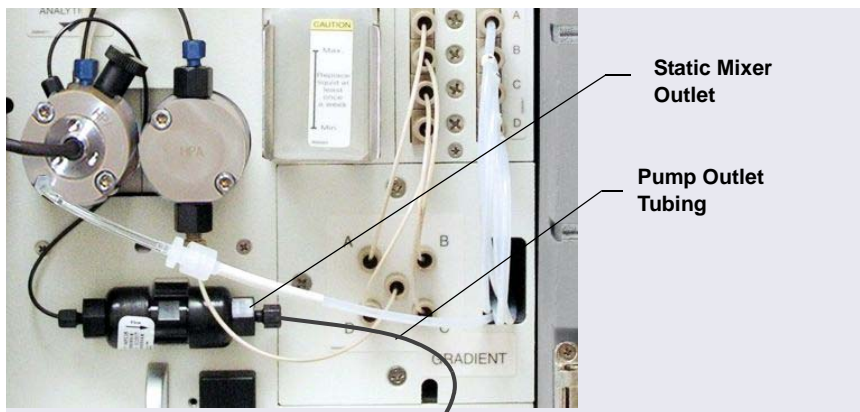

Figure 4-20. Analytical Pump Outlet Connection
2. Connect the tubing to the static mixer outlet (see Figure 4-20).
1. Remove the static mixer from the mounting clip on the component panel (see Figure 4-20).